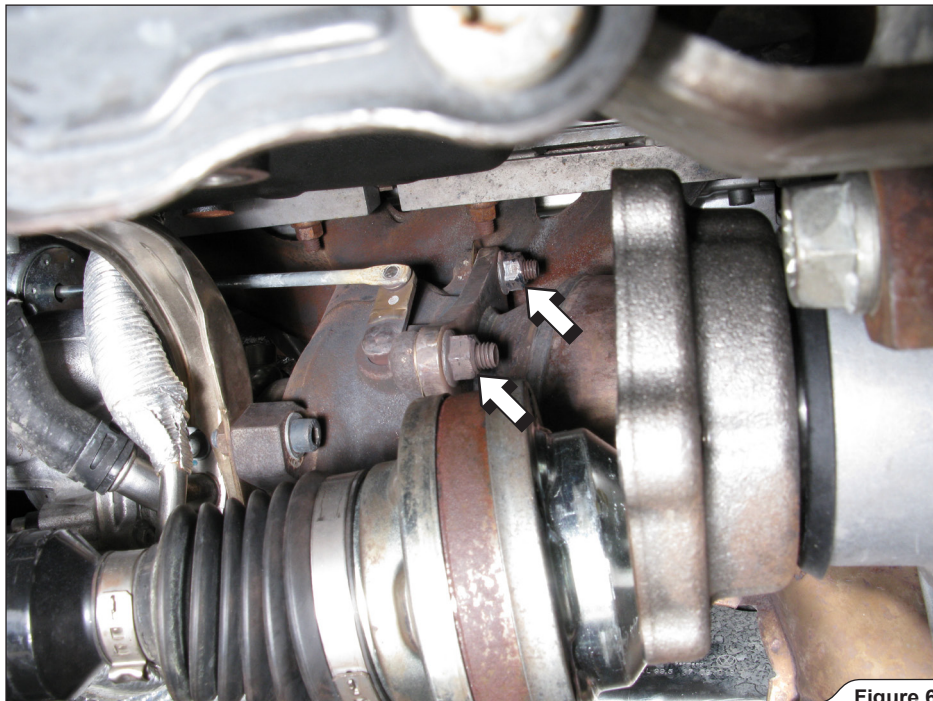

Figure 6
5. Unscrew the stock down pipe's flange nuts (**Figure 6, 7**).